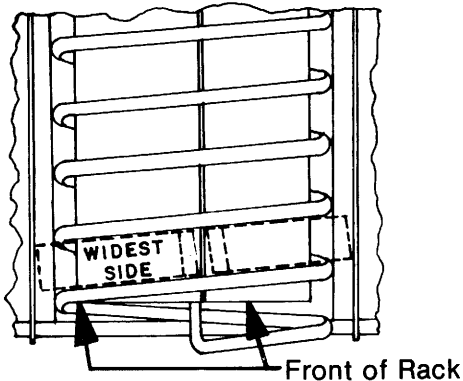

Figure 14
6. Stretch or compress front coil on helix and align with front of gum and mint rack as shown by arrow in Figure 14.